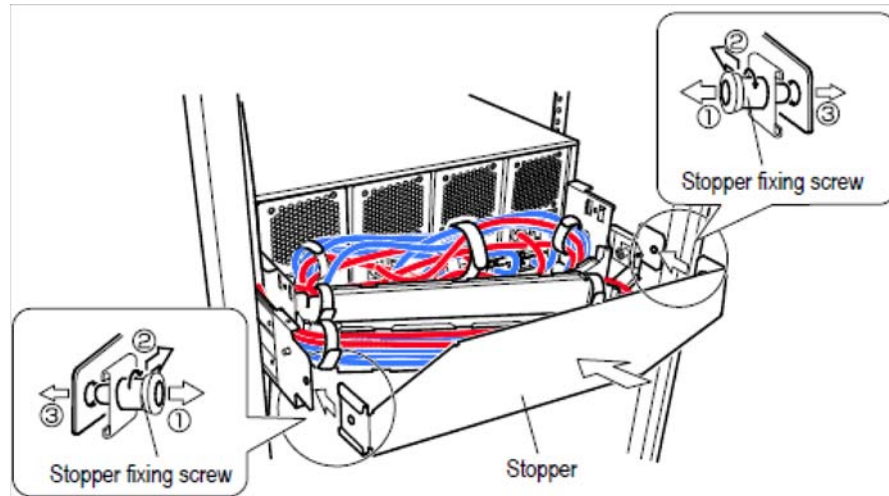

Figure 15-2: Removing the stopper
- a. Turn the right and left screws 90 degrees and remove them according to the direction of arrow ?in Figure 15-2 on page 15-20.